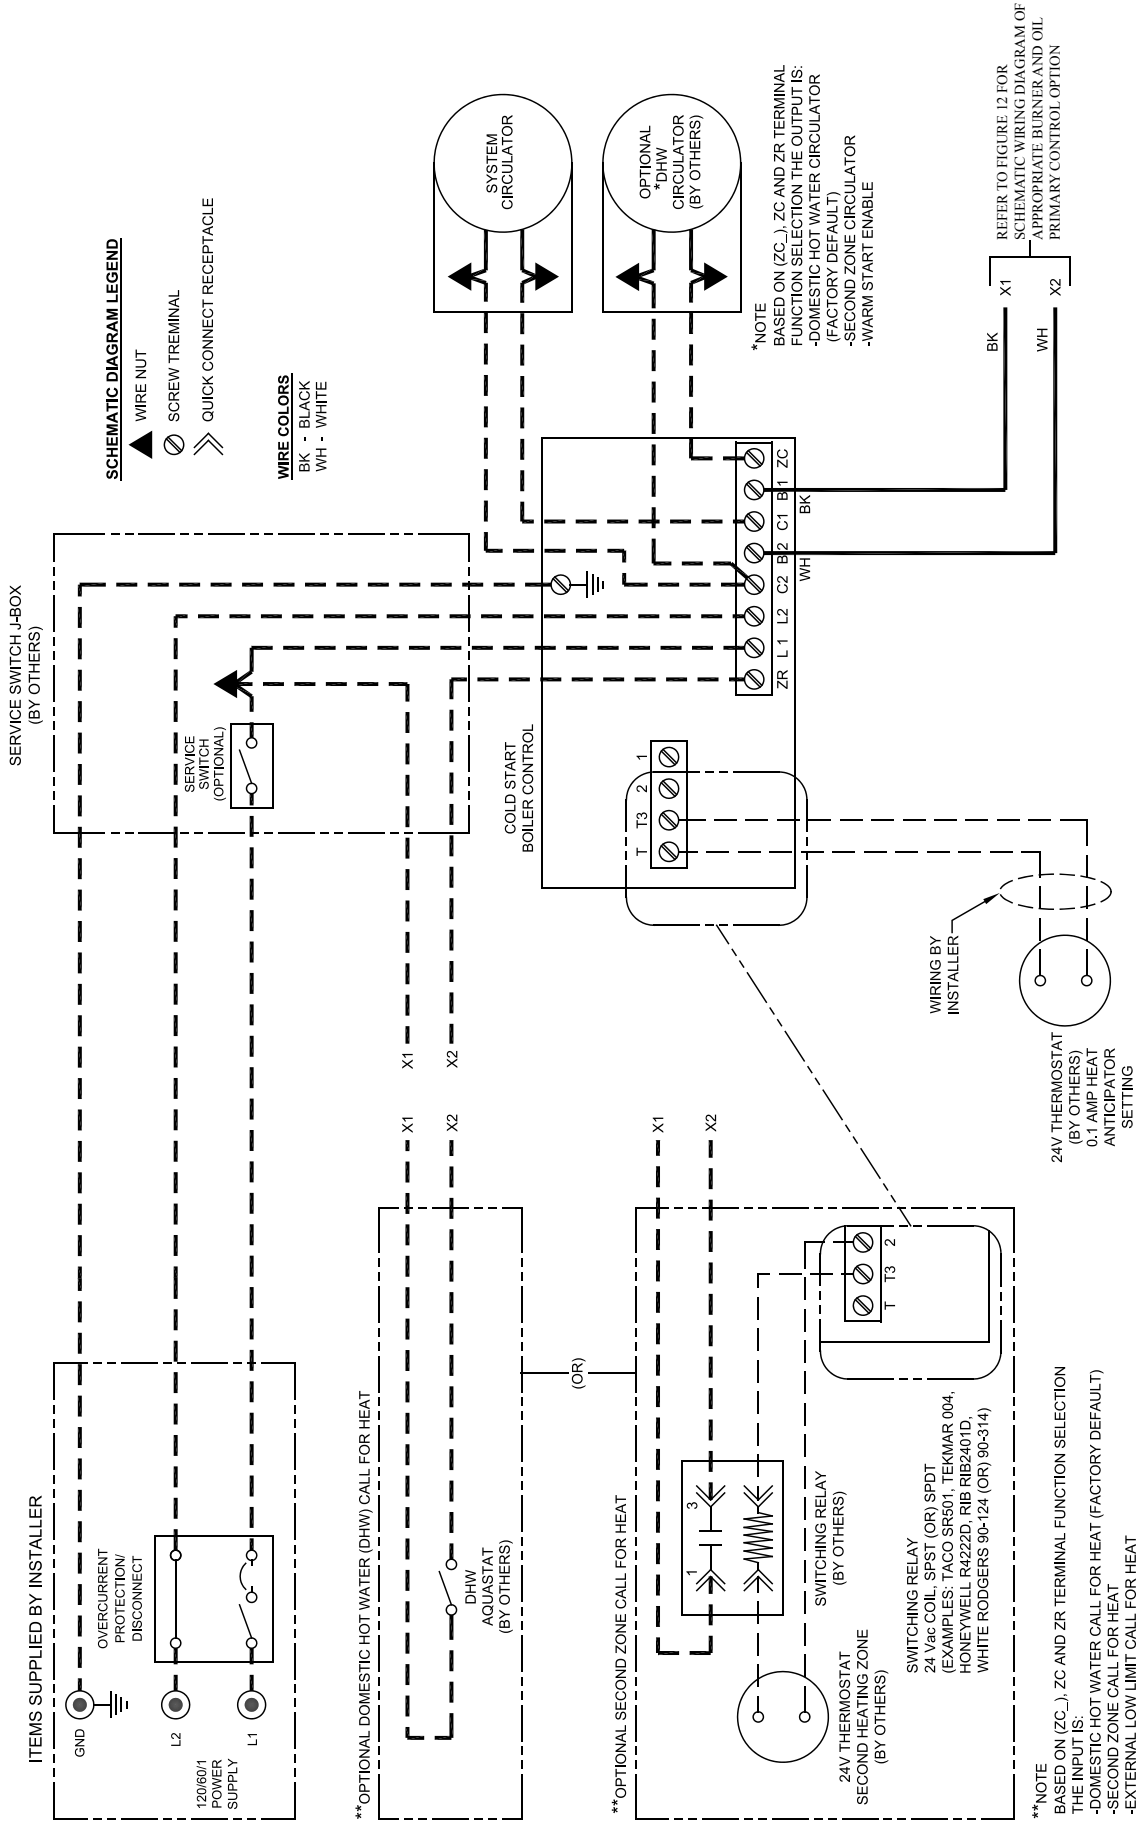

Figure 10: Schematic Wiring Diagram, without Tankless Heater, Cold Start Control (Beckett and Riello Burners)
3. Wiring should conform to Figure 10 and/or 11.
3. Use armored cable (BX) over all exposed line voltage wiring.
5. Single Zone System – Refer to Figure 10 or 11 for the electrical diagram for this type of system. Connect the system circulator wire leads to the proper locations on the Aquastat control, L7224/L7248. See Figure 10 or 11.
NOTE: APPLY THIS BURNER SCHEMATIC TO APPROPRIATE STEAM OR WATER BOILER CONTROL SCHEMATIC, REFER TO FIGURES 10 AND 11